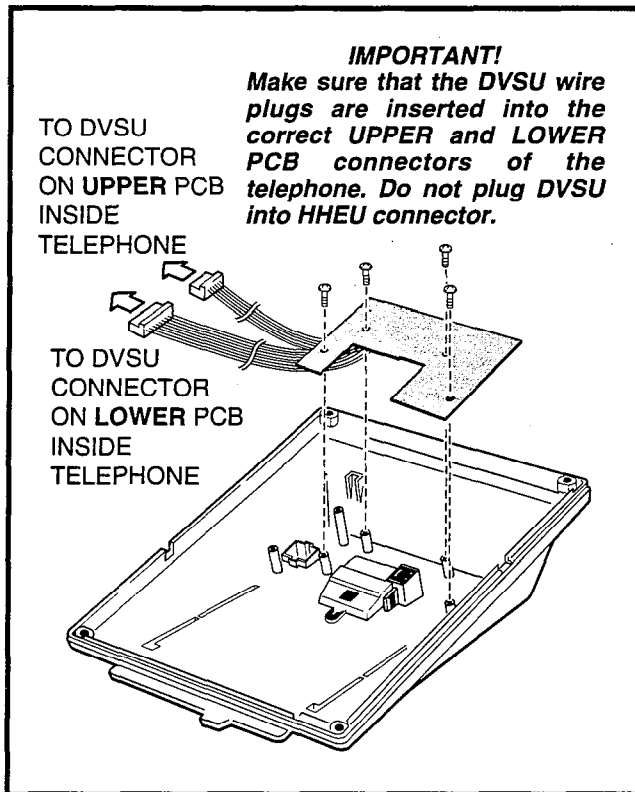

FIGURE 4-46—DVSU INSTALLATION
- 2) Loosen the four captive screws securing the metal plate to the standoffs inside the base where the DVSU PCB will be installed (Figure 4-46). Remove the metal plate and discard it.
(Figure 4-46), and secure it with the four screws provided.
- 4) Connect the DVSU wire plugs to the connectors labelled "DVSU" on both telephone's PCBs (Figures 4-46 and 4-47).